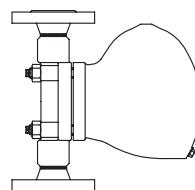

Fig. 631
- with butt weld ends (Fig. 631....4)